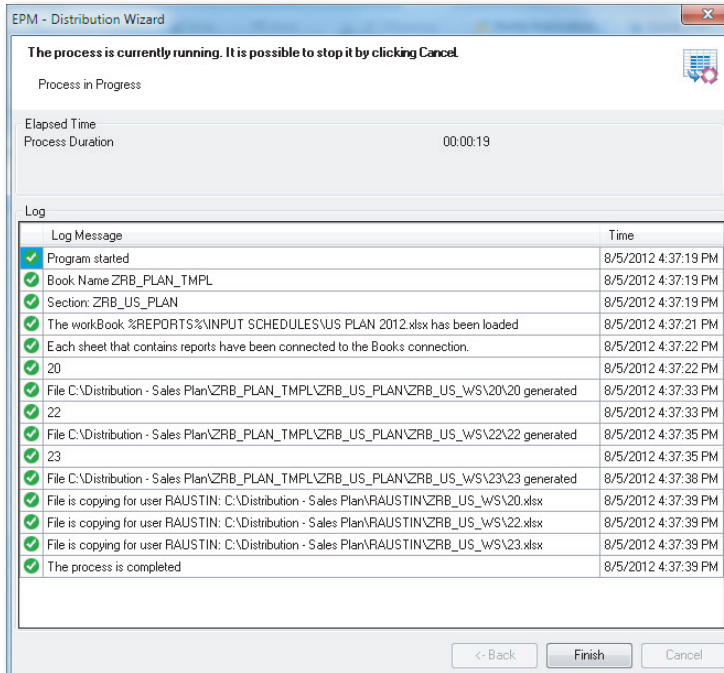

Figure 7.26 Offline Distribution Wizard—Part E
6. The distribution template is now executed on the client machine. In this case, the client is the user who is scheduling this process for execution. The reports and input forms specified in the distribution template are opened, the context view is changed based on the selections defined there, and the data is refreshed and saved in the folder specified. A message confirms that the reports were distributed successfully (Figure 7.26). Click on **FINISH** to complete the distribution process.